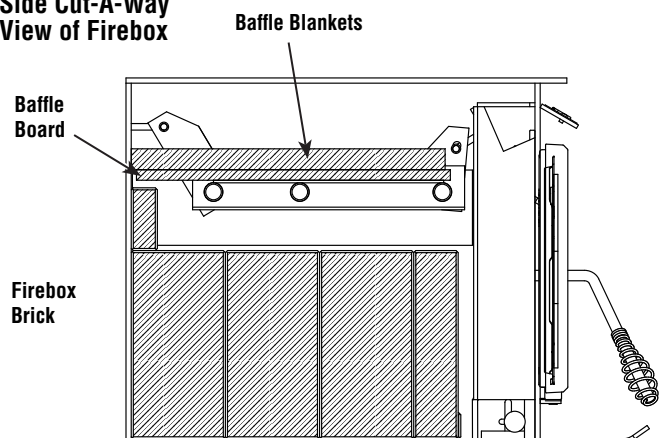

Figure 4
2. Next, you will install the baffle boards. All 4 baffle boards included are the same size which is 15" x 4-3/4". You will start by installing the boards in the center part of the unit on top of the secondary tubes to each side of the baffle support with the 15" side of the baffle board going from the front to back of the unit. Once you have the first two boards installed slide the board to the left side of the baffle support all the way to the left and rear of the unit. You will slide the board to the right side of the secondary support to the right and rear of the unit. Next you will install the two remaining boards where you originally installed the first two boards on each side of the baffle support and pushed against the rear of the unit. The stainless steel support hanger should be centered left to right between the sets of baffle boards and placed as shown in **Figure 4**.